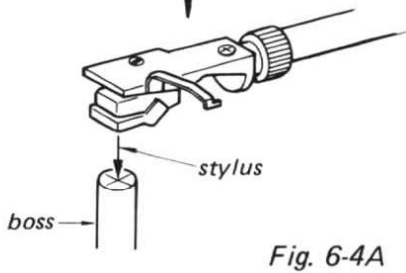

Fig. 6-4A
3. Adjust the position of the stylus so that the stylus comes to the mark of the boss as shown in Fig. 6-4A and the hold the stylus.